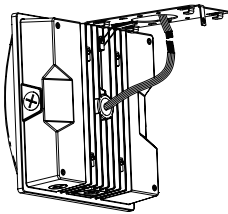

Fig. 2.4
4. Hang the luminaire by the plate and connect the wiring of the luminaire to the local power supply (Fig 2.4).